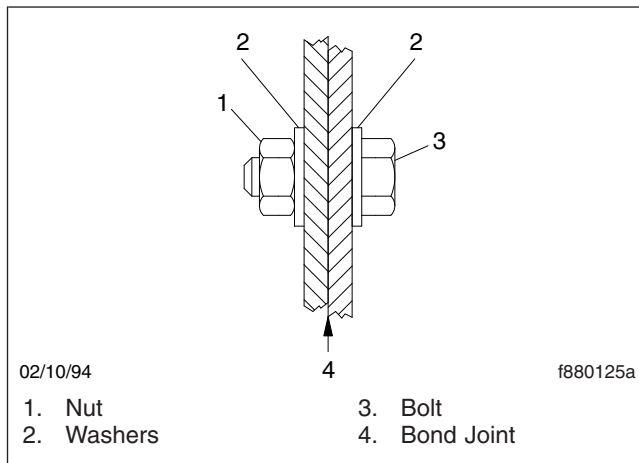

Fig. 2, Clamping Bolt at Bond Joint
4. If replacing a large part, align the part on the hood and clamp it in place. Drill holes through the bonding surfaces and install clamping bolts in the holes. Use two washers, one on each side of the joint. See **Fig. 2**. There should be enough clamping bolts to hold the hood in place and keep the bonding surfaces together, or at least one bolt every 12 to 18 inches (30 to 45 cm). Remove the part for application of adhesive.